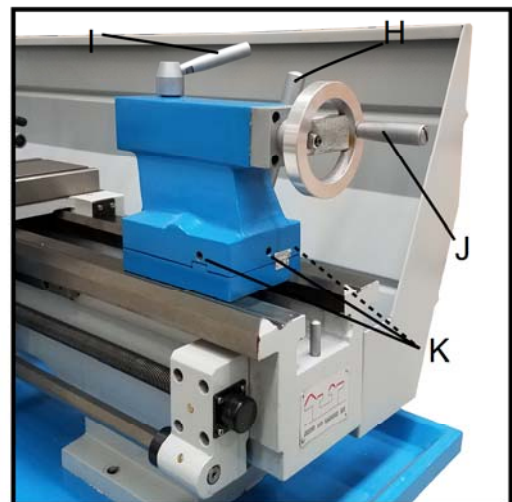

Fig. 16
16. Tailstock Clamping Lever (H, Fig. 16)
17. Tailstock Quill Clamping Lever (I, Fig. 16)
18. Tailstock Quill Traverse Handwheel (J, Fig. 16)
19. Tailstock Off-set Adjustment (K, Fig. 16)